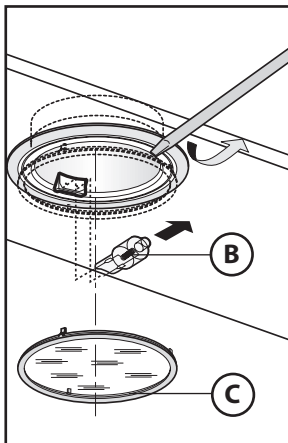

Fig.6
• **Replacing halogen light bulbs (Fig.6):**